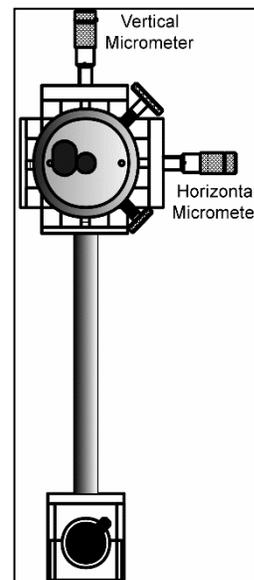

Figure 56 - T-230 Target Stand
*An appropriate target stand with micrometer stage, such as the Hamar Laser T-230, or any calibrated x-y slide, may be used when calibrating center-only targets (see **Figure 56**).*